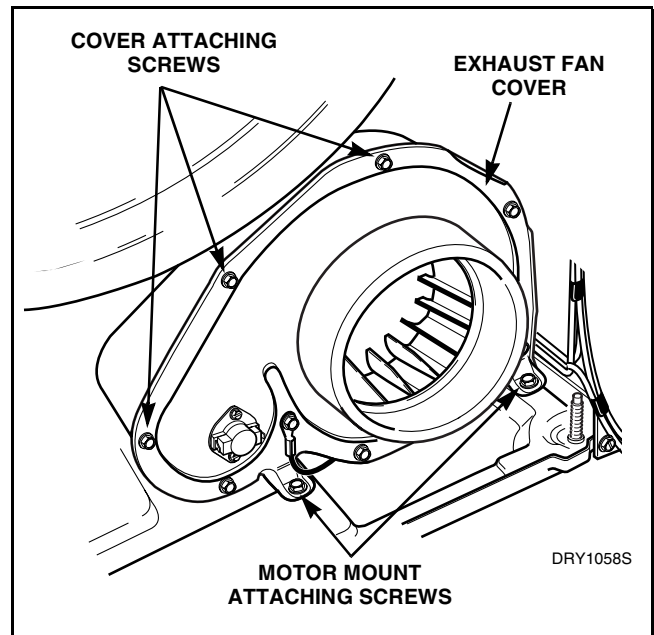
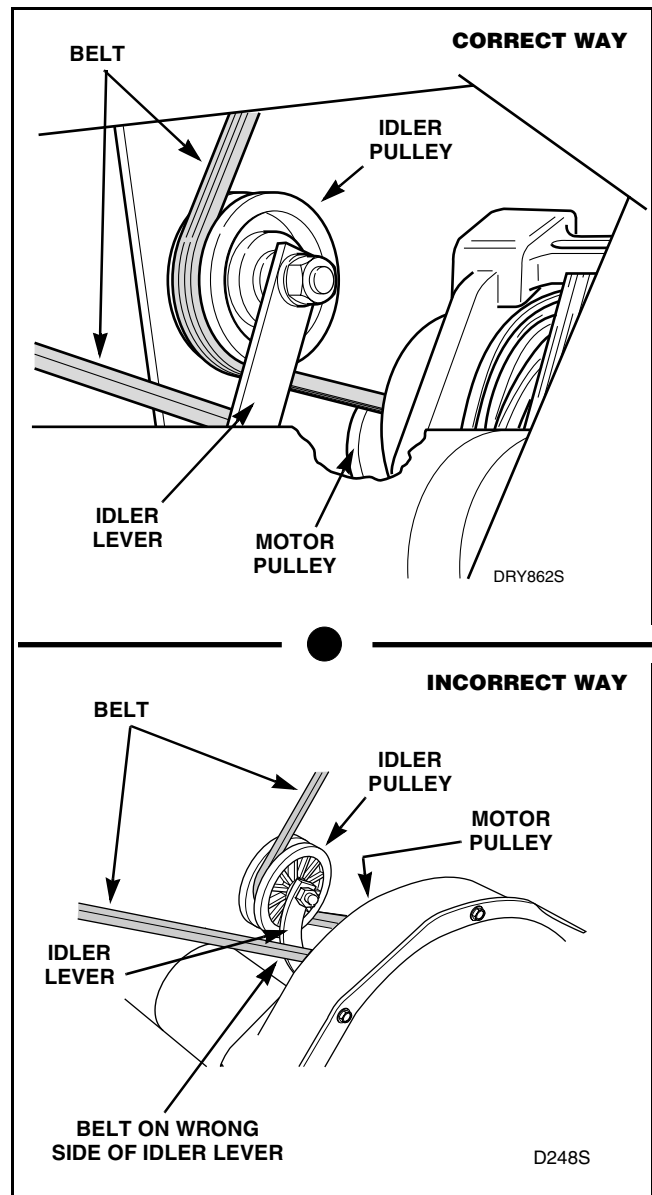
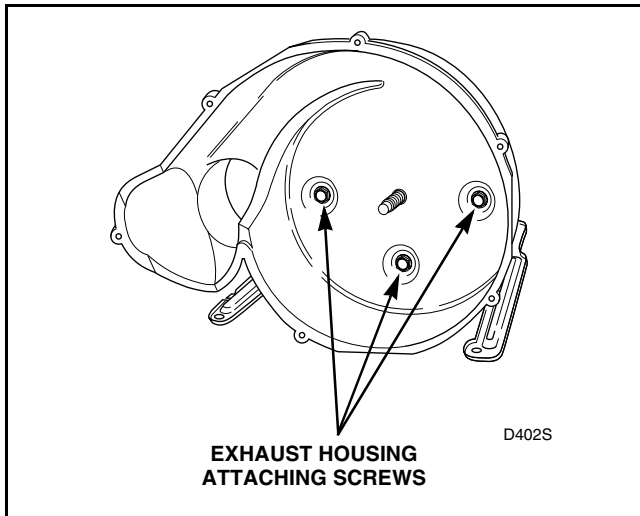

Figure 23
Figure 24
Figure 27
- g. Remove cylinder belt from idler and motor pulleys. Refer to *Figure 24*.
- h. Remove two screws holding motor mounting bracket to dryer base. Refer to *Figure 23*. Then pull complete assembly out thorough front of dryer.
IMPORTANT: When reinstalling motor and exhaust assembly, be sure wire harness on right side is clipped to motor mounting bracket and is routed along dryer base (between motor mounting bracket and right side of cabinet). Refer to *Figure 23*. Tab on rear of motor mounting bracket must be slid into slot in dryer base. Be sure the belt has been installed on the correct side of the idler lever. Refer to *Figure 24*.
- (2) Remove screws holding cover to housing. Refer to *Figure 24*.
- (3) Hold motor pulley securely and unthread impeller from motor shaft (right hand thread). Use a 7/8 inch, 6 point socket to aid in the removal of the impeller.
- (4) Remove three screws and washers holding the exhaust housing to the motor mounting bracket. Refer to *Figure 27*.
- Disengage belt from motor and idler pulleys. Refer to *Figure 24*